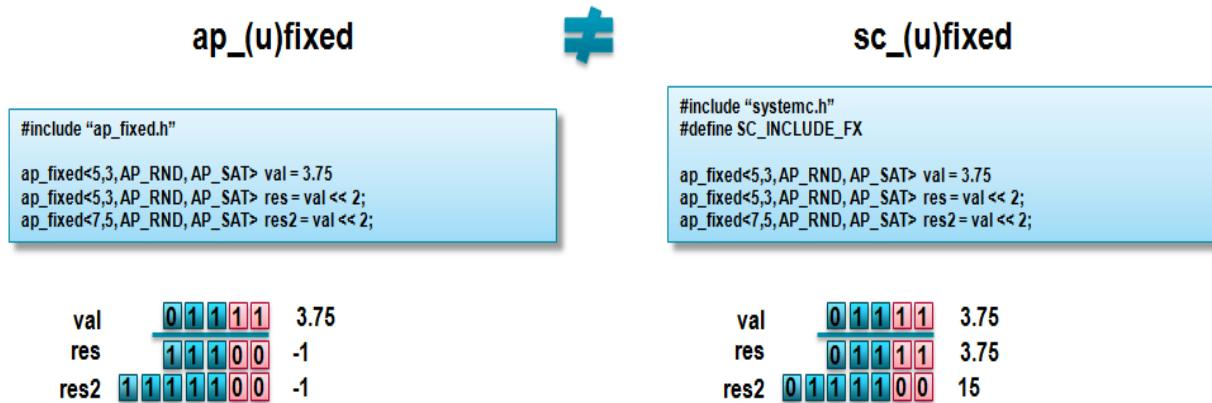

Figure 3-18: Fixed-Point Differences with Left-Shift
- Figure 3-18 shows an example of this operation for both Vivado HLS and SystemC types.